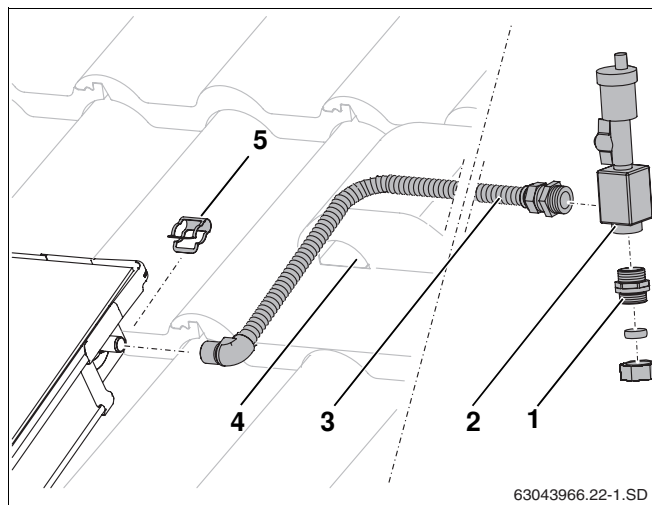

Fig. 56 Fitting the air vent valve under the roof
- Push connection pipe (Fig. 56, **Item 3**) onto the flow connection on the collector array and fix in place using bracket (Fig. 56, **Item 5**).
- Feed connection pipe together with the sensor cable through the ventilation tile (Fig. 56, **Item 4**) and through the roof insulation.
- Firmly screw connection pipe (Fig. 56, **Item 3**) and double threaded fitting (Fig. 56, **Item 1**) into air pot (O-ring gasket).
- Connect header pipe to double threaded fitting with compression fitting (Fig. 56, **Item 1**).